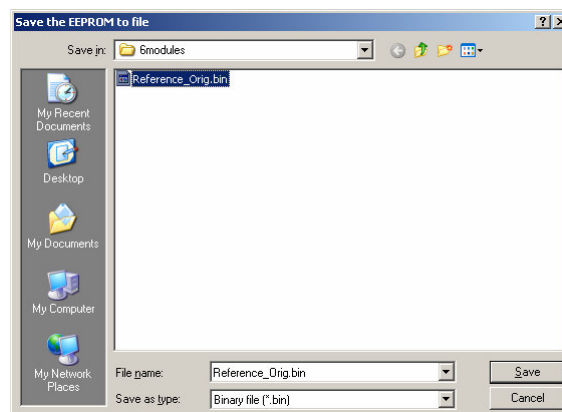

Fig. 6 Saving MLX90614 configuration.
- Note3: Having a new device read is the right moment to save the original device configuration. This allows us to return to the initial setting at any time afterwards. This is done by the "Save file" button, Fig. 6.